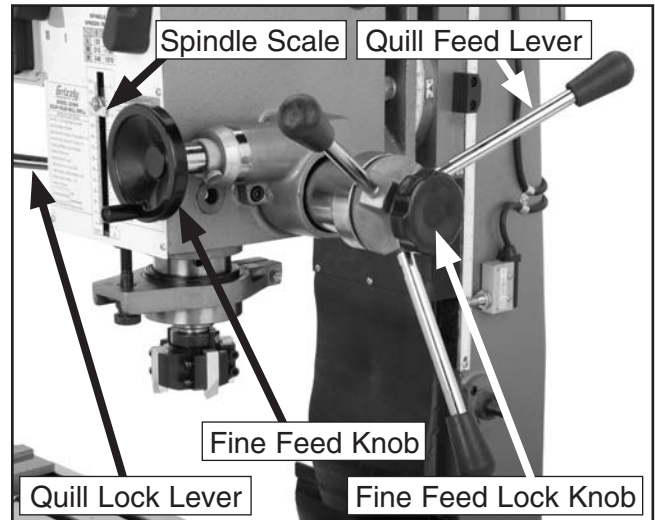

Figure 16. Milling/drilling controls.
1. Learn about the control panel shown on **Page 16** and the controls shown in **Figure 16**.